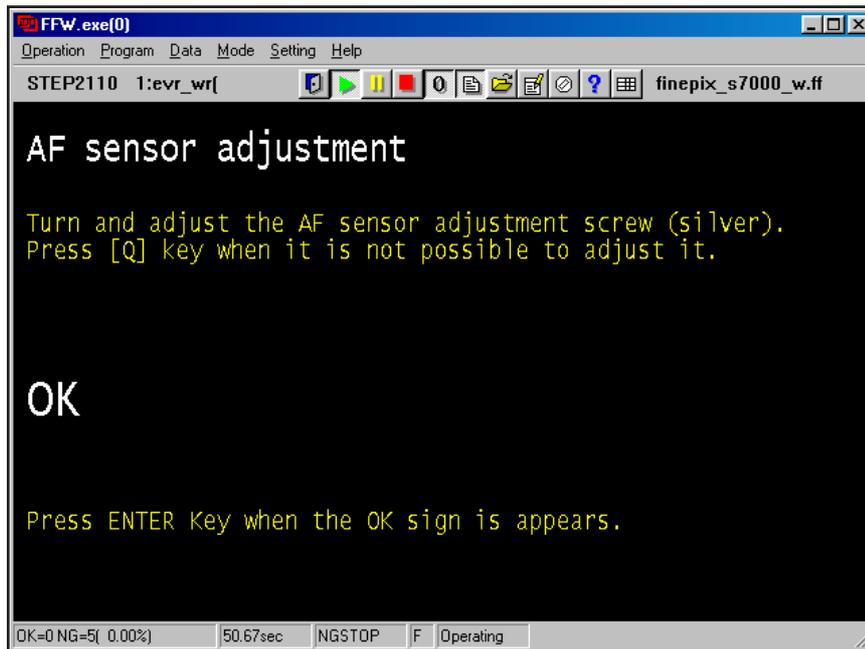

Fig.9
---> The [AF-Sensor adjustment Screen (Fig.9)] appears.